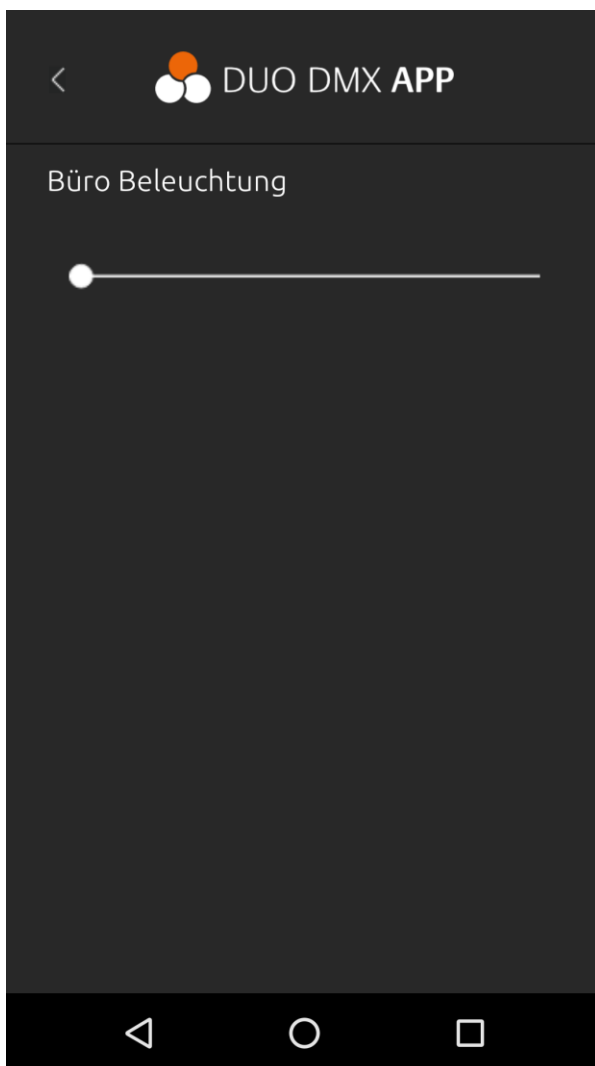

Figure 68: Lamp 1 channel (only dimming)
- 2. Screen for the control of an individual channel (dimming with a slider; Figure 68: Lamp 1 channel)